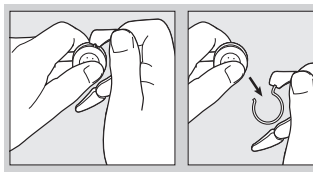

Figure 3-4. Removing Ear Capsule.
3. With your right thumb and index finger, firmly grasp the top of the ear capsule at the saddle (see Figure 3-4).